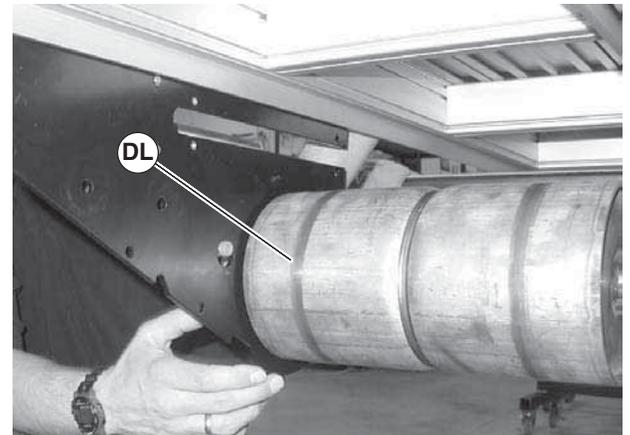

Figure 102
11. Slide drive pulley (Figure 102, item DL) out of attached side plate.